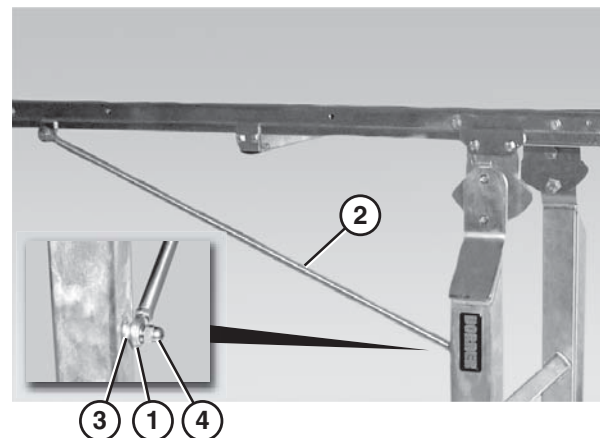

Figure 14
1. Install the rod end (Figure 14, item 1) of the diagonal brace (Figure 14, item 2) on the stud (Figure 14, item 3) and secure it with an M8 acorn nut (Figure 14, item 4).